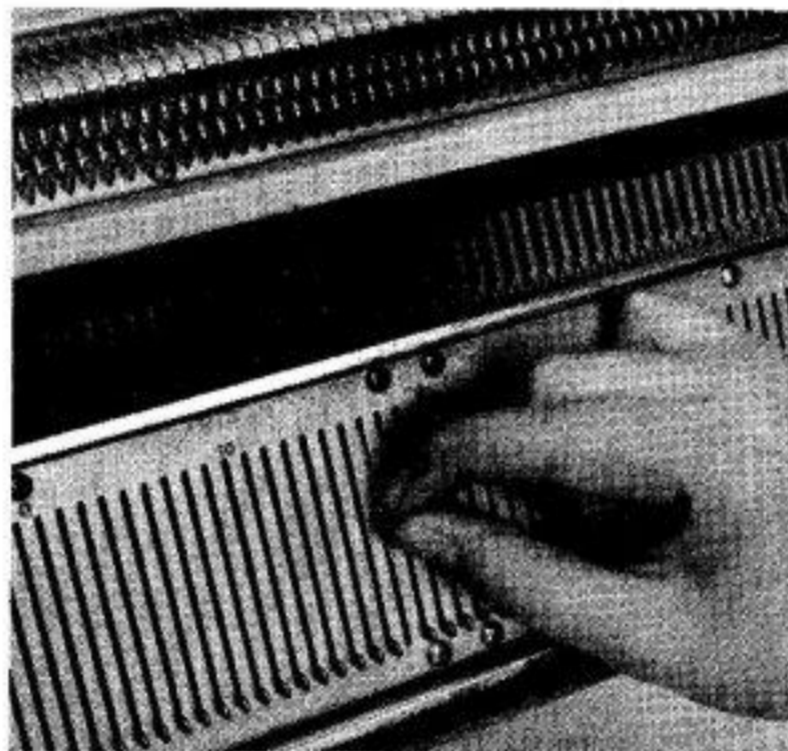

Fig. 88
3. Change to the new needle. (Fig. 88)